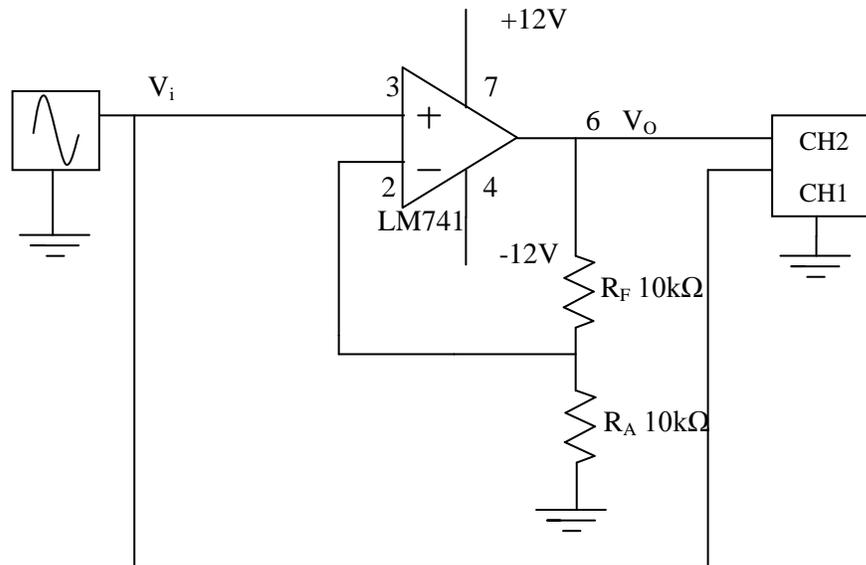

Fig 12.1 Op-amp as non-inverting amplifier
In non- inverting amplifier output waveform is in phase with respect to input waveform. Input will be amplified by factor A_v in magnitude. Signal to be amplified is applied to the non- inverting input of the op amp as shown in above Fig 12.1. R_F is the feedback resistor. R_F and R_A together determines the gain of the amplifier. Non-Inverting operational amplifier gain can be expressed using the equation $A_v = 1 + R_F/R_A$.
1.Connect circuit of Fig 12.1 to measure signals then setting oscilloscope scale as follows, both CH1 and CH2, using 0.5V/div with time base of 1ms/div.